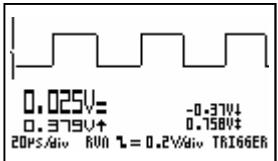

Fig 59
- ‘run’ = auto triggering (fig. 59)
- ‘run’ = auto-triggering (fig. 59)
- ‘run’ = synchronisation automatique (fig 59)
- ‘run’ = Auto-Auslösung (fig 59)